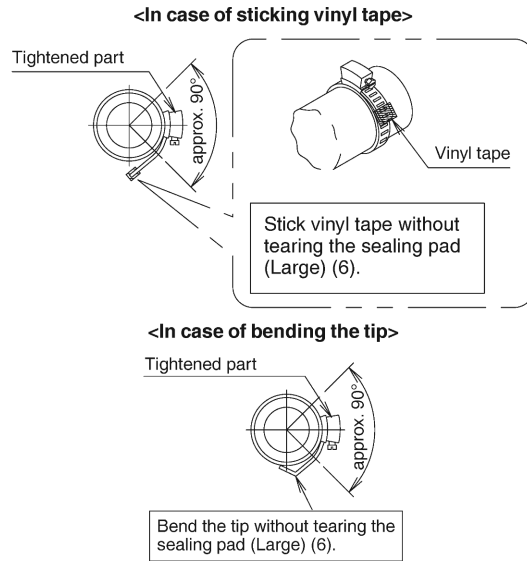

Fig. 14
- Do not tighten the clamp metal (1) with the torque more than the specified value. The drain hose (2), the socket or the clamp metal (1) may be damaged.
- Wrap the vinyl tape around the end of the clamp metal (1) so that the sealing pad (Large) (6) to be used at the next process may not be damaged with the clamp end or bend the tip of the clamp metal (1) inward as shown. (Refer to Fig. 14)